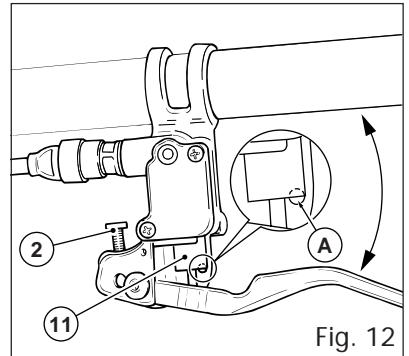

Fig. 12
- turn screw (2, fig. 12) until you have found the ideal distance between lever and handlebar (lever reach).
This operation may cause that the piston closes the valve that regulates the communication between the hydraulic circuit and the compensation reservoir. To check if this has happened you have to look at the pumplever from the top with the lever in rest: the top of the piston (11, fig. 12) **must never make** the control hole (A, fig. 12-13), on the bottom of the pumplever, **fully visible**.